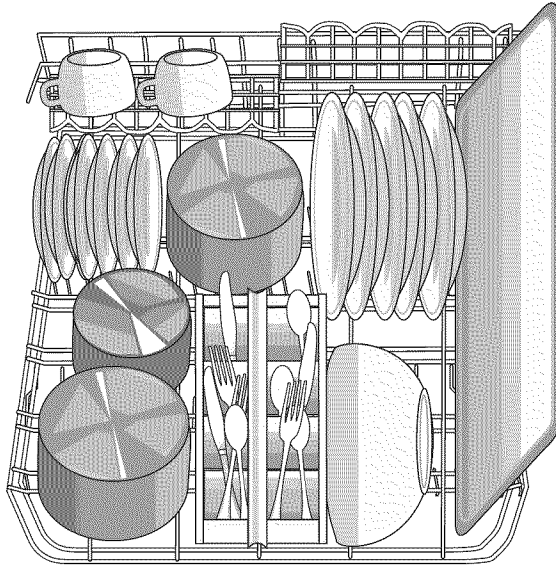

Figure 5. Lower Rack with Heavier Soiled Fans
- Large and/or heavily soiled items should be placed in the lower rack of the dishwasher. Heavily soiled pots and pans should be placed face down. See **Figures 5 and 6.**